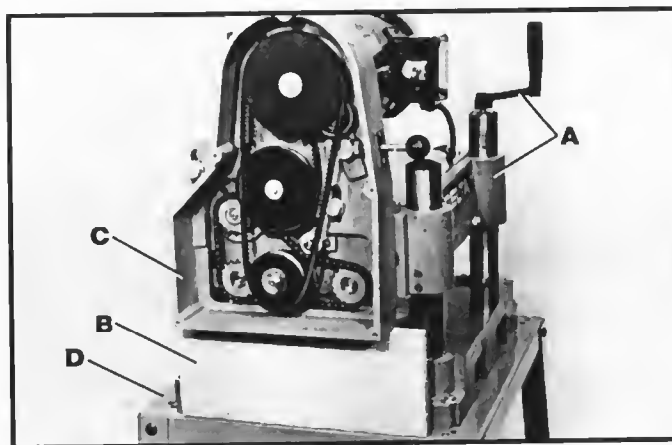

Fig. 13
1. Raise or lower the head assembly (A) Fig. 13, until you can place a block of wood, approximately 1"x6"x12" (B), between the bottom of belt guard (C) and top shelf of stand (D), as shown.